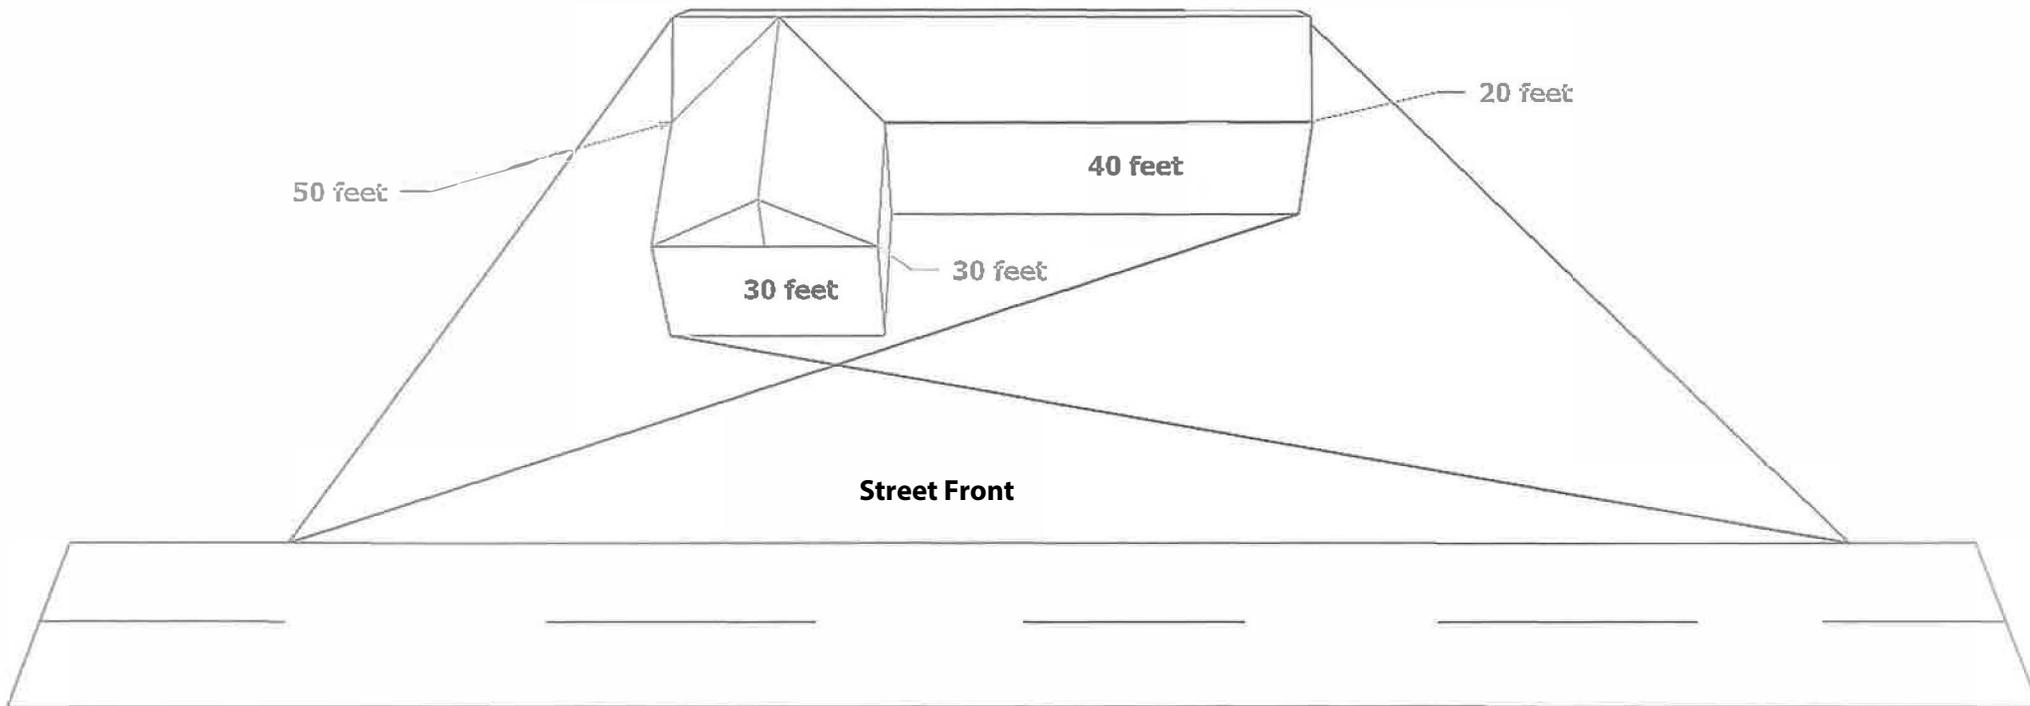

Figure 2
2. **F** = Length of the longest horizontal straight section of the exterior facade visible from the street. (see Figure 2) F=_____ft.
- a. There must be an intervening physical separation of space or wall which makes horizontal separation of at least three (3) feet (see Figure 2).
- b. The intervening physical separation of the space and wall must maintain that separation for at least one (1) foot vertically.
- c. The total perimeter length of the intervening space or wall section must be at least five feet (i.e. section a. above must total five (5) feet) (see Figure 2).